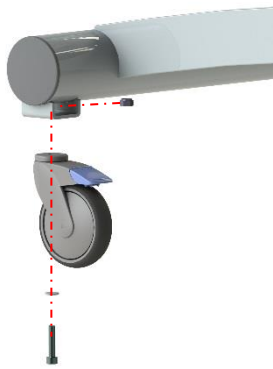
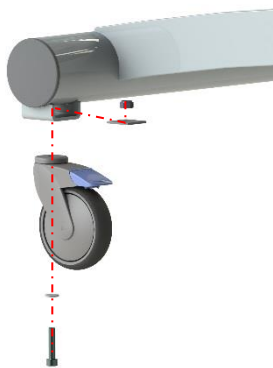

Figure 4 Wheel (With only a nut fixation)
Figure 6 Wheel (With square stainless steel plate and nut fixation)
Before 2018, no ring was added to the wheel attachment. You can find 2 different situations. One with only a nut fixation (See figure 4 and 5) and one with a square stainless steel plate (see figure 6).
- **Add the ring 45x10.5x1.5 to the attachment. When the situation is like figure 6, you have to remove the square stainless steel plate before you add the ring (between the frame and the nut).**